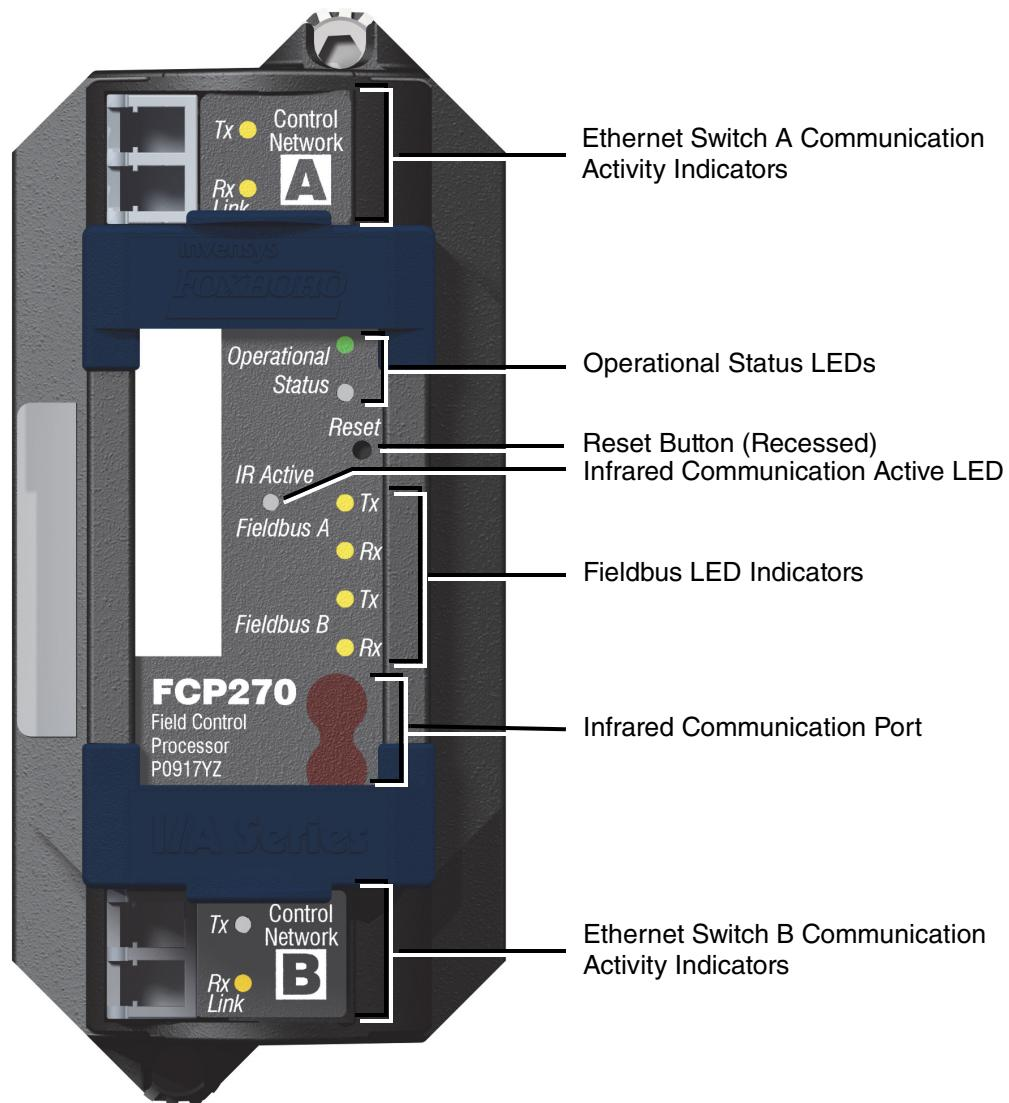

Figure 5-1. FCP270 LED Indicators, Reset Button, and Infrared Port
Light-emitting diodes (LEDs) on the front of the FCP270 module (Figure 5-1) provide visual indication of the module's operational status and transmit/receive communications activity of The MESH control network A and B links. The red Reset button enables you to restart the FCP270. The infrared communication ports enable you to assign or read the controller letterbug and read controller status information using the I/A Series system Letterbug Configurator. Table 5-1 describes these LEDs and controls.
The Operational Status LEDs (red and green) on the front of the FCP270 (see Figure 5-1) indicate the module's operational status.
1. Reboot the FCP270 module using either the module Reset button (see Figure 5-1) or the System Management displays (see “Reboot Station Procedure” on page 56).
The normal idle state of the yellow TX and Rx/Link LEDs on the front of the FCP270 module (see Figure 5-1) is to have all of the Tx LEDs dark and all of the Rx/Link LEDs lit, which indicates that the fiber links are established. Every time the module transmits on any Ethernet cable, the Tx LED for that cable lights up; whenever the module receives a packet of data, the Rx/Link LED for that cable blinks.